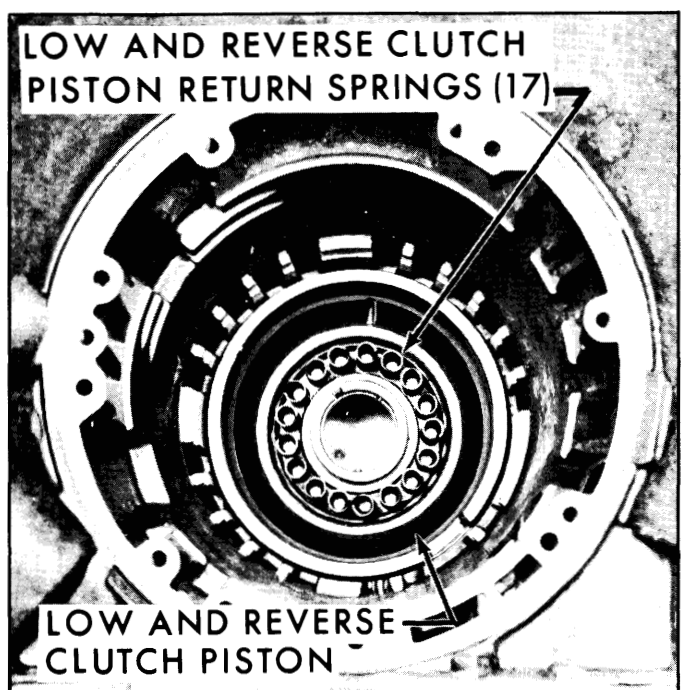

Fig. 7-52—Low and Reverse Clutch Piston Springs and Piston
21. Remove (17) piston springs from piston. (Fig. 7-52)